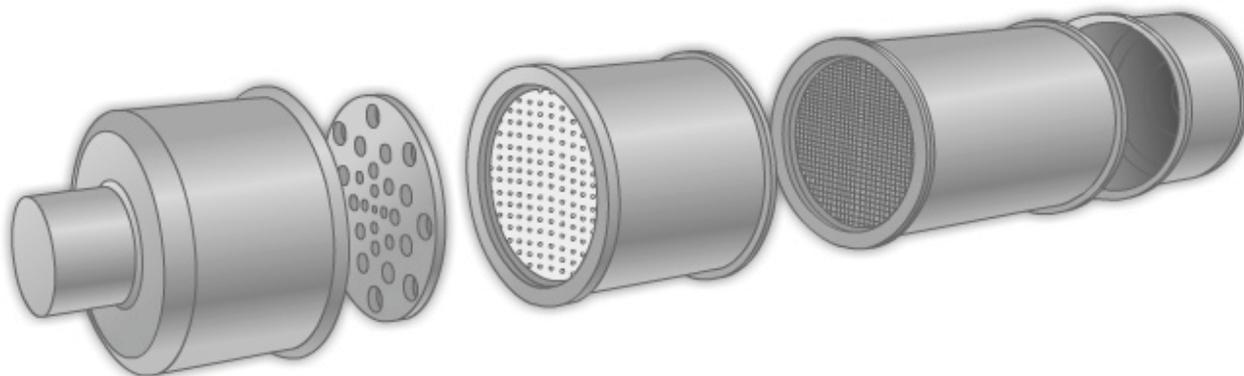

Figure 5-145 - Passive (diesel) particulate.
- a. A **passive (diesel) particulate filter**, as illustrated in *Figure 5-145*, is a standard, ceramic honeycomb structure with alternate plugged channels. A catalyst is typically upstream of the filter but may be integrated into it. In certain cases, a washcoat layer of catalytic material may be placed on the filter in addition to the catalyst.